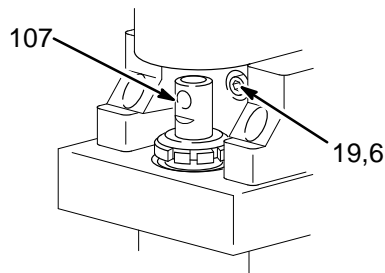

Fig. 22
2. Remove the pressure control (64). See page 27.
3. Turn the displacement pump rod (107) so the pin hole aligns with the bottom drive housing screw (19). See Fig. 22. Remove the three drive housing screws and lockwashers (19,6). Also see Fig. 23 on page 26.